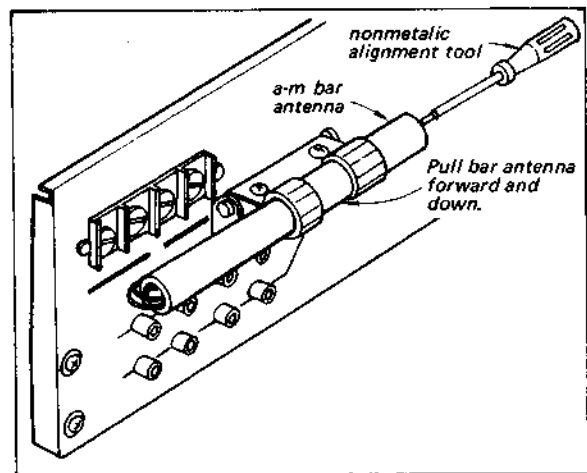

Fig. 3-13. A-m bar antenna core alignment
1. Tune the set to the station whose carrier frequency is closest to 620 kHz and adjust the position of a-m bar antenna core (see Fig. 3-13) to obtain maximum output.